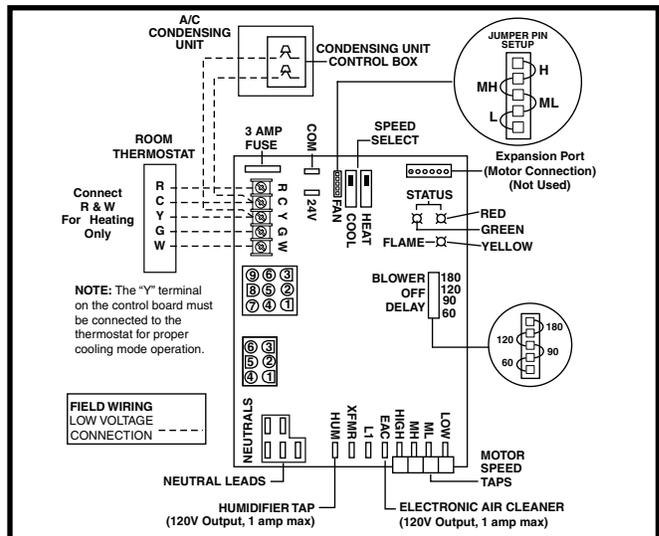

Figure 13. Low Voltage Connections
- The thermostat must be installed according to the instructions supplied by the thermostat manufacturer. Low voltage connections (24 VAC) from the thermostat are wired to the terminal strip on the integrated control in the furnace. Figure 13 contains the proper connections for heating only (two-wire) and heating/cooling (four-wire) applications.
- The six pin terminal marked "Expansion Port" (Figure 13, page 14) is not used in the single stage furnace as shipped from the factory. It is used for the furnace control board to communicate to a fixed speed or variable speed high efficiency motor that may be optionally installed. Please contact your distributor for the proper upgrade motor kit.
- ✓ Verify the jumper setting (for fan speed) on the control board. See Figure 13, (page 14).
- When the thermostat energizes the **G** terminal for continuous fan (without calling for heat or cooling), the indoor fan is energized on the selected FAN speed. See Figure 13, \(page 14\). The control defaults to MEDIUM HIGH if the movable jumper is not attached.